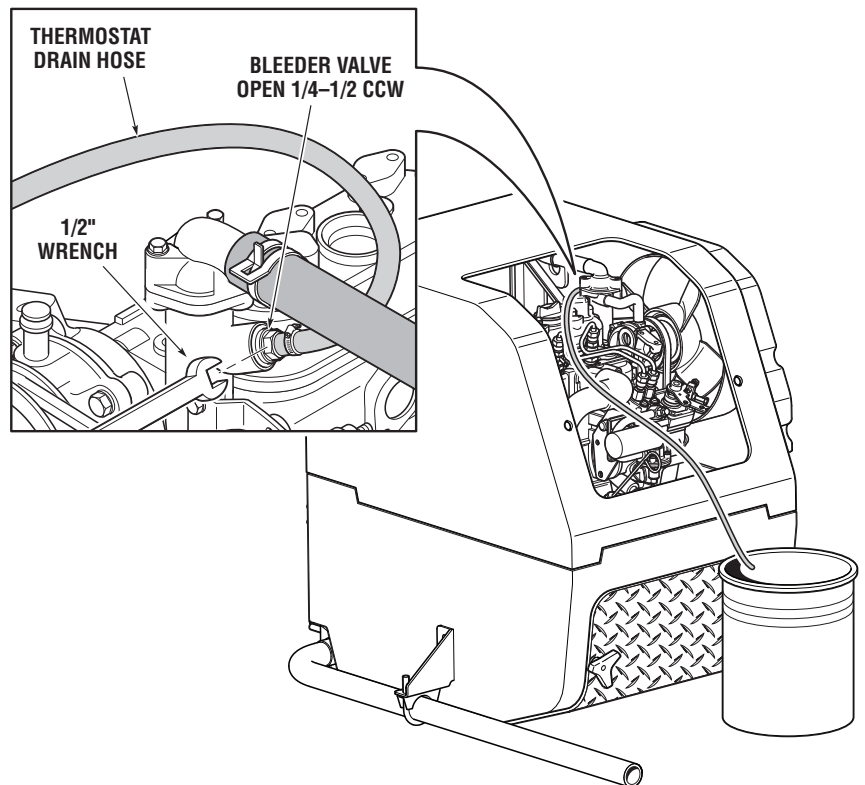

Figure A-7: Drain Hook-up
- Place thermostat drain hose into bucket (see Figure A-7).